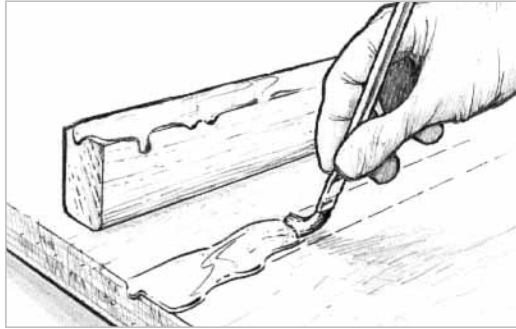

Figure 5-8 Wet out bonding surfaces with unthickened epoxy for maximum penetration and greater adhesion.
1. Wet-out bonding surfaces—Apply a neat resin/hardener mixture (without fillers) to the surfaces to be joined (*Figure 5-8*). Wet out small or tight areas with a disposable brush. Wet out larger areas with a foam roller or by spreading the resin/hardener mixture evenly over the surface with a plastic spreader. You may proceed with step two immediately or any time before the wet-out coat becomes tack free.